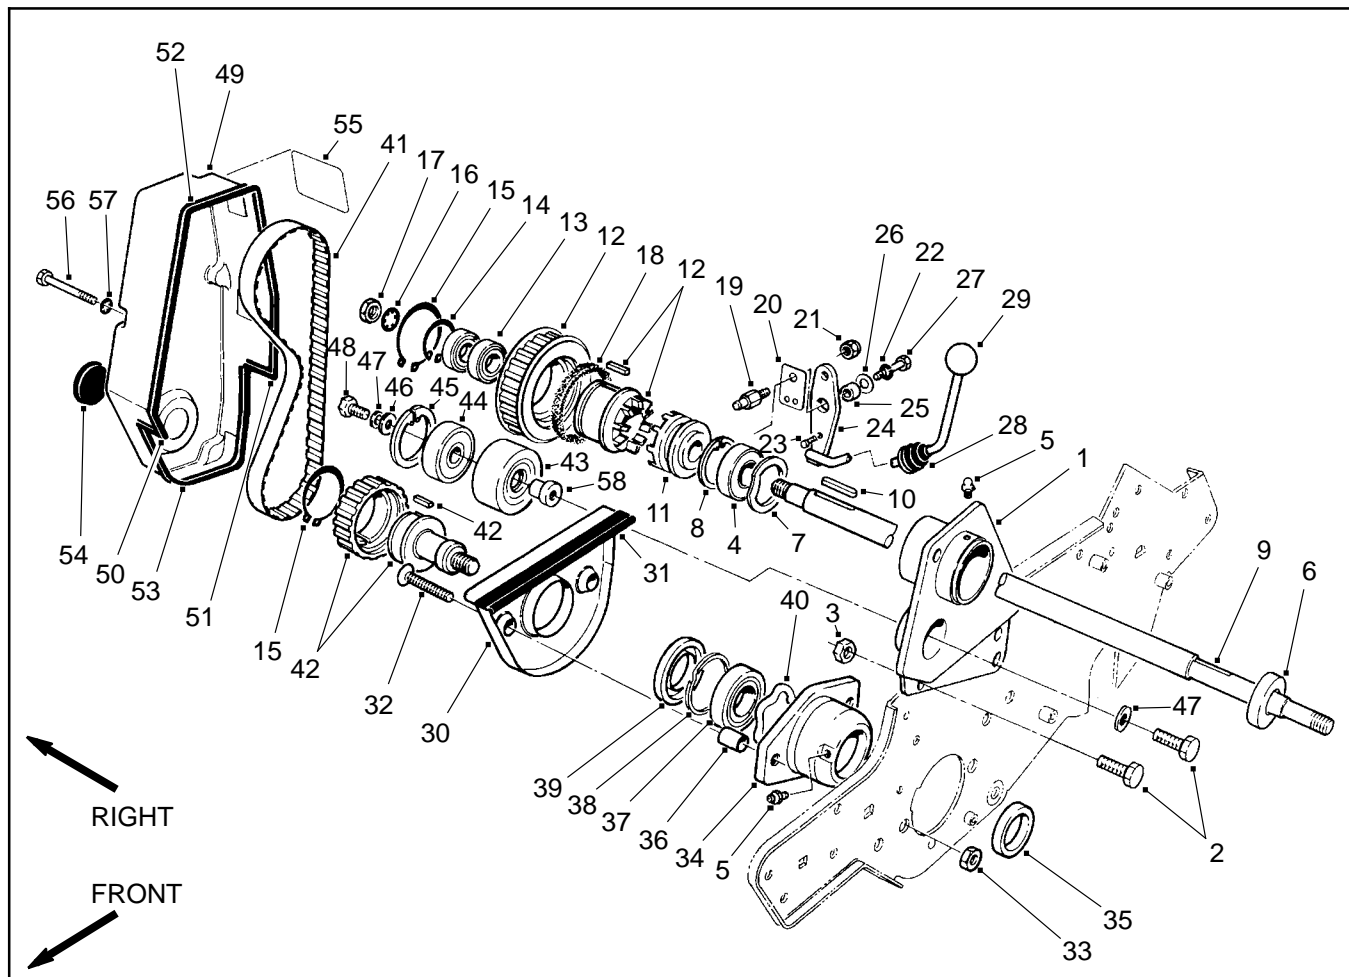
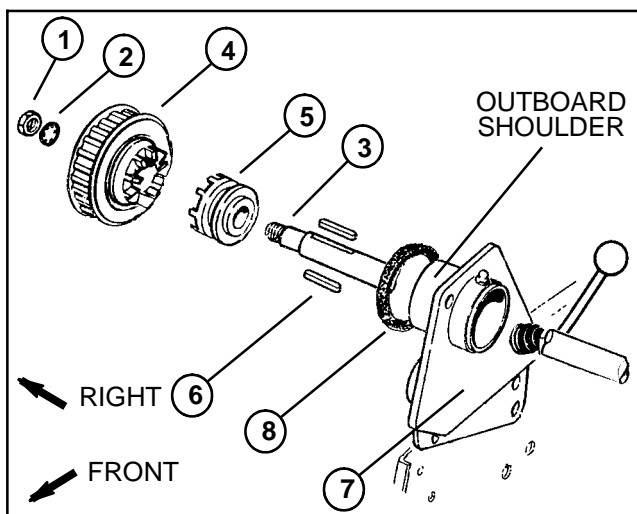

Figure 11
Figure 14
2. Remove cap screws (56), washers (57) and reel drive cover (49) to expose reel drive belt (41) (Fig. 11).
4. Loosen cap screw (2) securing the pulley support spacer (58) (Fig. 11).
2. Remove cap screw (2) and lock washer (47) from the pulley support spacer (58). Remove idler pulley assembly from the clutch housing (Fig. 11).
2. Position cap screw (2) with lock washer (47) into the clutch housing (1). Start cap screw into pulley support spacer (58) of the idler assembly until lock washer just starts to compress. **Do not over tighten (Fig. 11).**
2. Remove clutch lever (24) as follows (Fig. 11):
- A. Remove cap screw (27), lock washer (22), belle-ville washer (26), and spacer (25) from the clutch housing (1). Remove detent spring (20).
- B. Work clutch boot (28) from the clutch housing. Pull clutch lever from the clutch housing.
- C. Replace actuator pin (19) if necessary. Torque lock nut (21) from 45 to 60 in-lb (52 to 69 kg-cm).
3. Remove jam nut and lock washer from the power shaft. Pull clutch and pulley assembly from the shaft. Slide clutch jaw driver off the power shaft being careful not to lose the keys (Fig. 14).
IMPORTANT: Make sure both keys are removed from the power shaft prior to removing the clutch housing (Fig. 14).
4. Remove both cap screws (2) and lock nuts (3) securing the clutch housing (1) to the frame (Fig. 11). Slide clutch housing off the power shaft and away from the frame (Fig. 14).
Clutch Housing Disassembly (Fig. 11)
Clutch Housing Assembly (Fig. 11)
2. If the felt seal is damaged or worn, replace seal as follows (Fig. 14):
5. Tap both keys into the keyways of the power shaft. Apply Never Seize to the area of the keys and bearing journal of the clutch jaw driver (Fig. 14).
6. Place clutch jaw driver on the shaft with the jaws facing out. Align slots in the clutch jaw driver with the keys and slide into position (Fig. 14).
7. Place clutch and pulley assembly on the power shaft with the jaws facing the clutch jaw driver. Secure assembly to the shaft with the lock washer and jam nut (Fig. 14).
C. With the actuator pin engaging in the groove of the clutch jaw driver (slide driver all the way into the housing), secure cap screw into the clutch housing (Fig. 14).